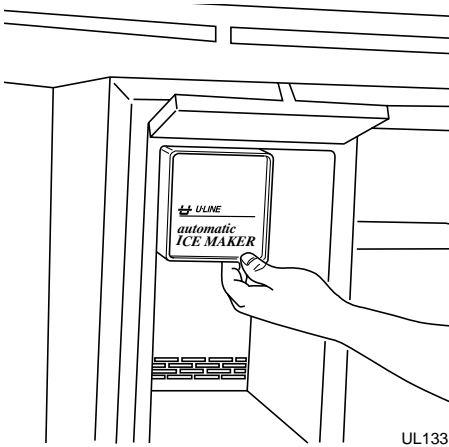

Figure 35
1. Remove the ice maker assembly cover (see Figure 35).